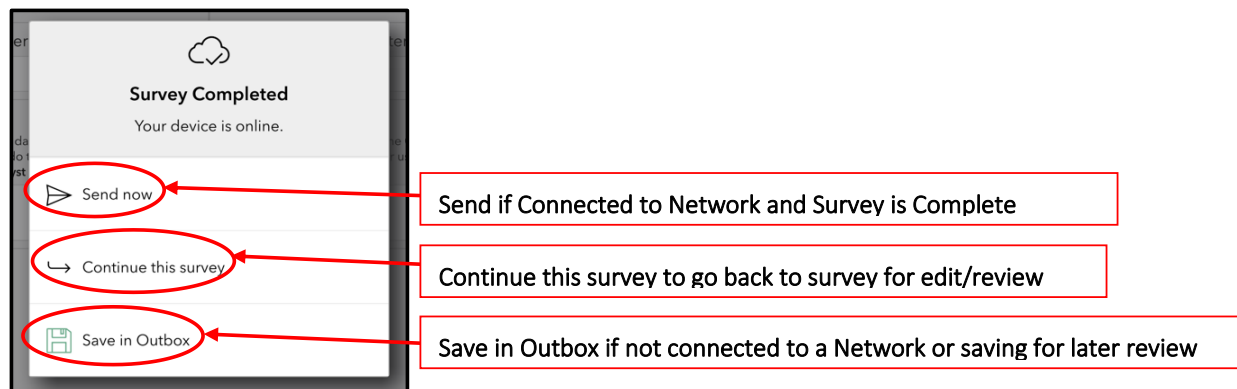

Figure 61. Image showing options for submitting survey shown in Red Circles and labeled
1. Select the “Check Mark Icon” and choose from the following options (Figure 61)